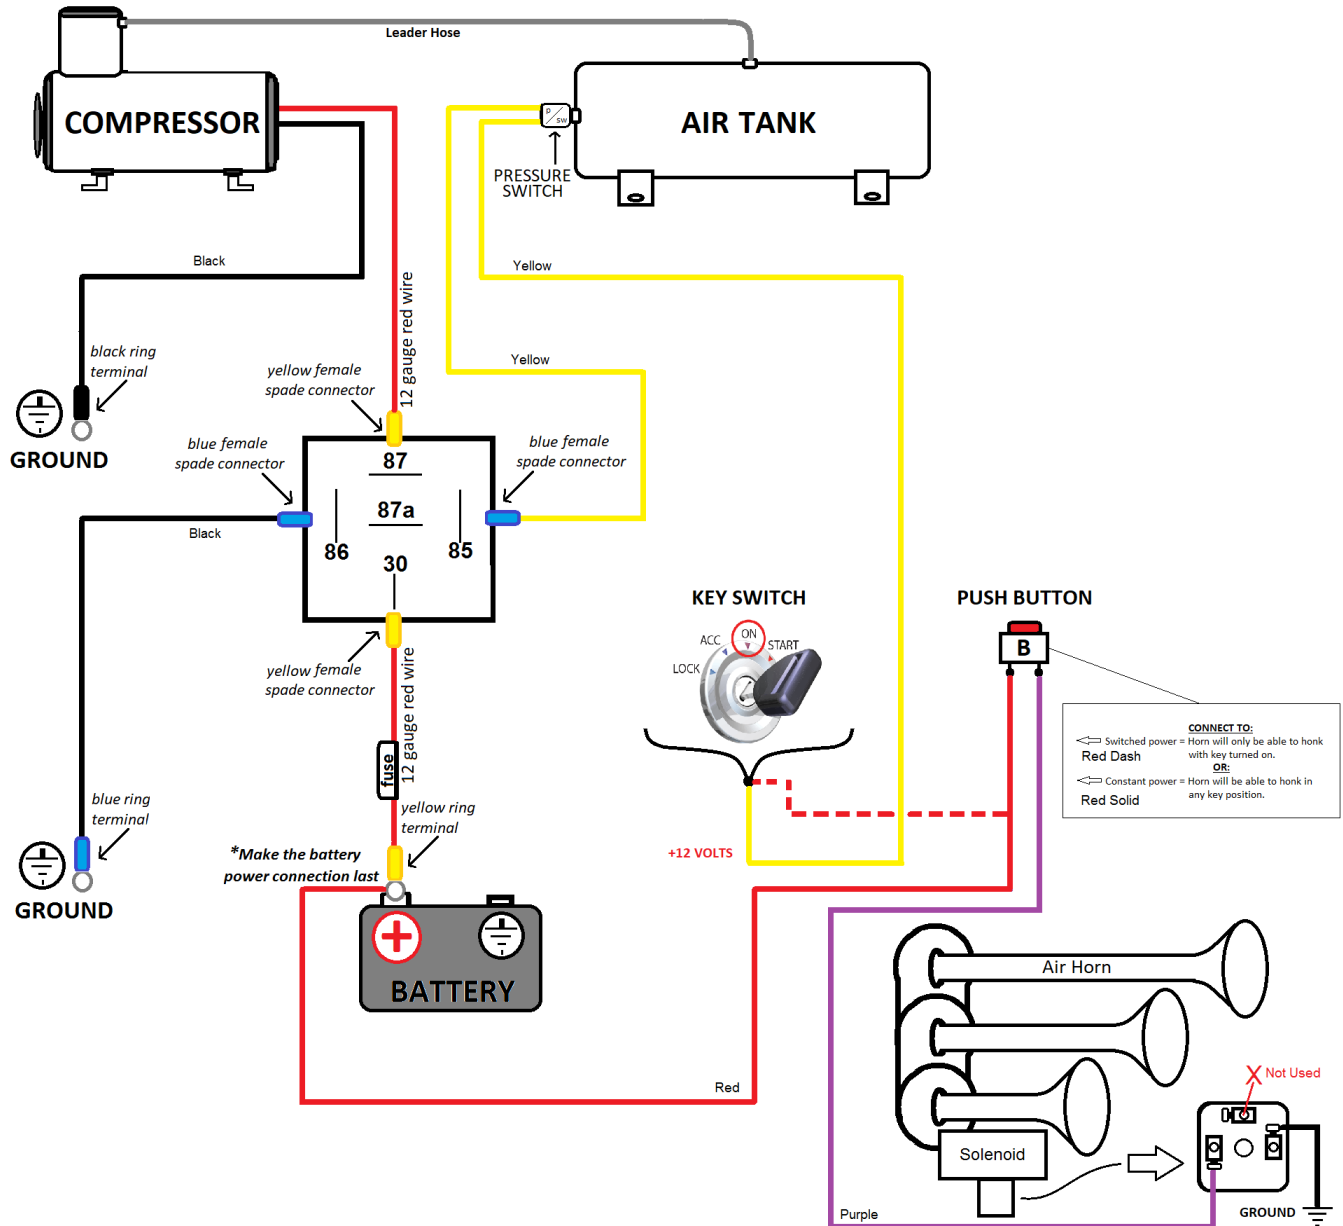

Figure 3 - Ignition Relay Diagram for Air Compressor, Air Tank Pressure Switch, and Air Horn
- 8.6.1. Connect routed wiring to relay, per wiring diagram. See Figure 3